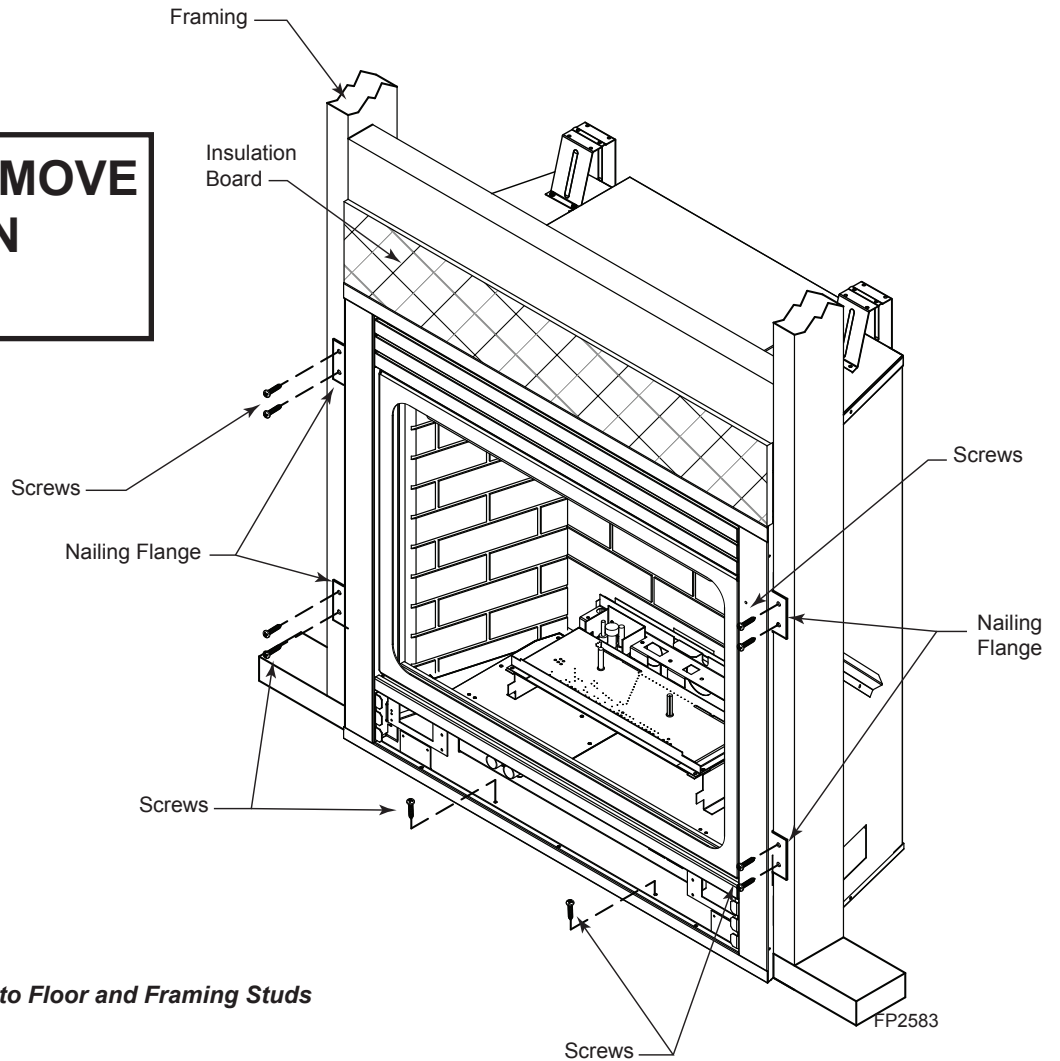

Figure 6 - Secure Fireplace to Floor and Framing Studs
The fireplace must be secured to the floor and/or to framing studs as shown in *Figure 6*. Use two (2) wood screws or masonry/ concrete screws to secure fireplace to the floor. Use four (4) screws to attach fireplace to framing. The side nailing flanges are 1/2" or 5/8" to accommodate different wall thickness.